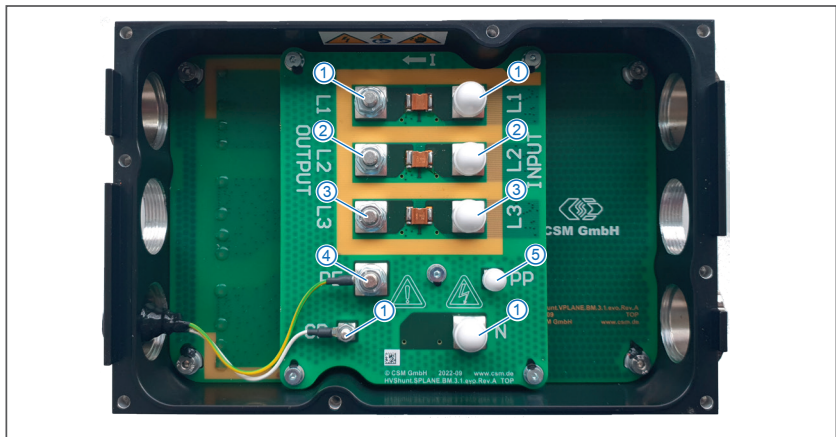

Fig. 4-7: HV BM 3.1 OBC, housing opened, threaded bolts marked
<p>The protective conductors (PE) of the two HV power cables are mounted on the designated threaded bolt in the measurement module (Fig. 4-7, ④). The threaded bolt for the protective earth conductor (PE) is not connected to the module housing. The measurement module has to be connected to the vehicle's potential equalization or protective earth (PE) in order to ensure user safety.</p> <p>→ Chapter 4.3.2.5 "Ground connection"</p>
The ring terminals of the outer conductors L1, L2 and L3 are each mounted on the correspondingly marked M6 threaded bolts of the shunt module (①, ② and ③) and fastened with M6 nuts. The conductors PE ④ and N ⑦ as well as the signal line CP ⑥ of the two HV wires are only connected to each other, i.e. the ring cable lugs of the respective conductors are placed together on the correspondingly marked threaded bolts and fastened with M6 or M4 nuts. The threaded bolt for the signal cable PP ⑤ has no function here and is not used. Finally, the plastic protective caps are fitted to the nuts (Fig. 4-7).
i	<p>Matching M6 or M4 nuts and plastic protective caps are included in the scope of delivery and pre-assembled on the threaded bolts.</p> <p>Fig. 4-7 shows the threaded bolts on the right with nuts and fitted protective caps (input side) and on the left with only the screwed-on M6 or M4 nuts (output side).</p>
- ☞ Place the M6 ring terminals of the conductors on the corresponding bolts (Fig. 4-7, ① to ③).
- ☞ Place the M6 ring terminals for the conductors N and PE on the corresponding threaded bolts (Fig. 4-7, ④ and ⑦).
- ☞ Place the M4 ring terminals for the CP wire on the corresponding threaded bolt (Fig. 4-7, ⑥).